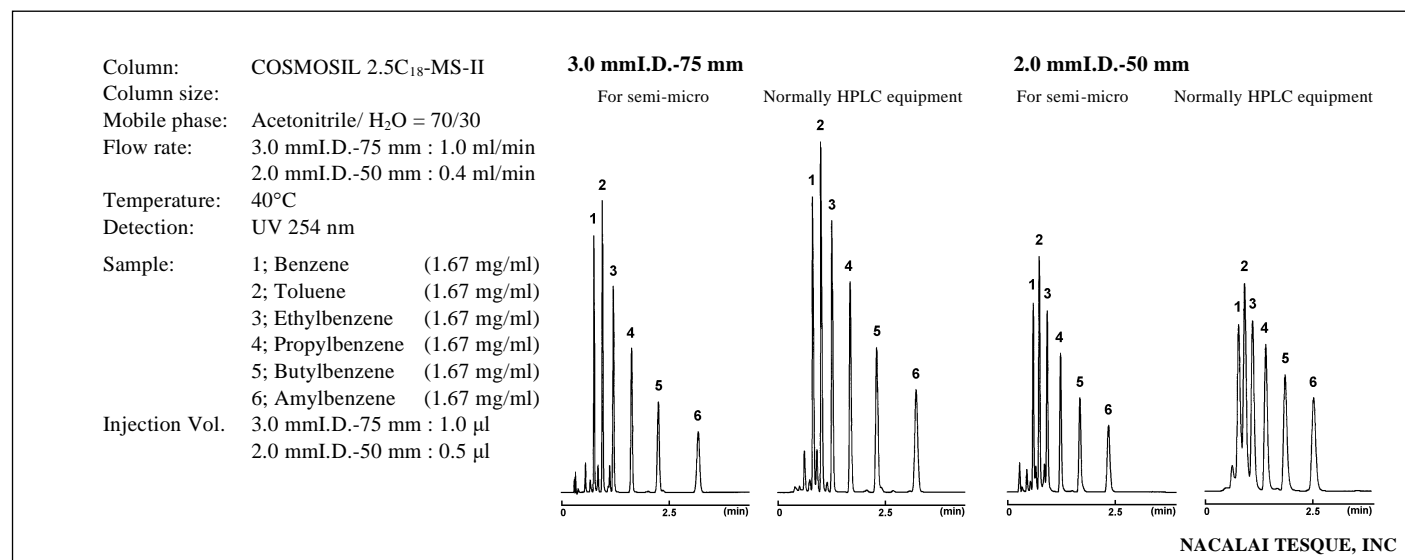

Figure 2. Effect of HPLC equipment
3. When using 2 mm I.D. column, use the detector cell and injector for semi-micro and the 0.1 mm I.D. pipe. [Fig.2]